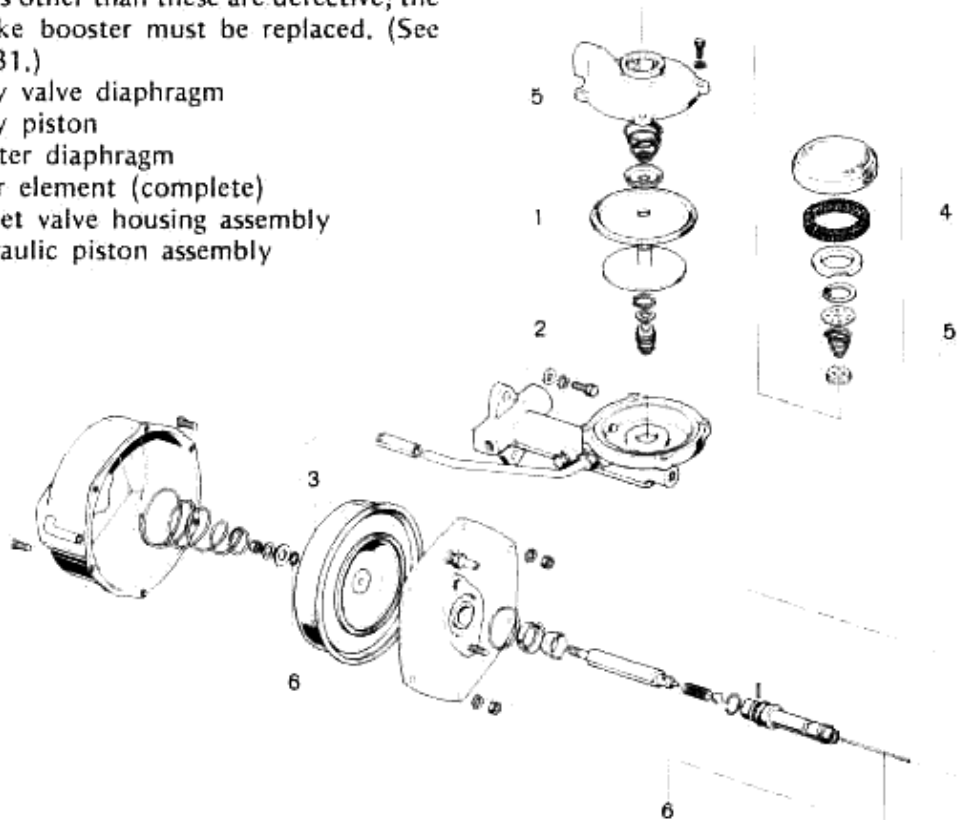

Fig. 11A-31 Replacement Parts For Brake Booster
2. Measure the cylinder bore at the inlet and outlet side. See Fig. 11A-32. If the cylinder bore is beyond the service limit, replace the entire brake booster.
3. Also measure the piston diameter on the inlet and outlet side. See Fig. 11A-32. Compare these measurements with those of the cylinder bore to determine clearance.